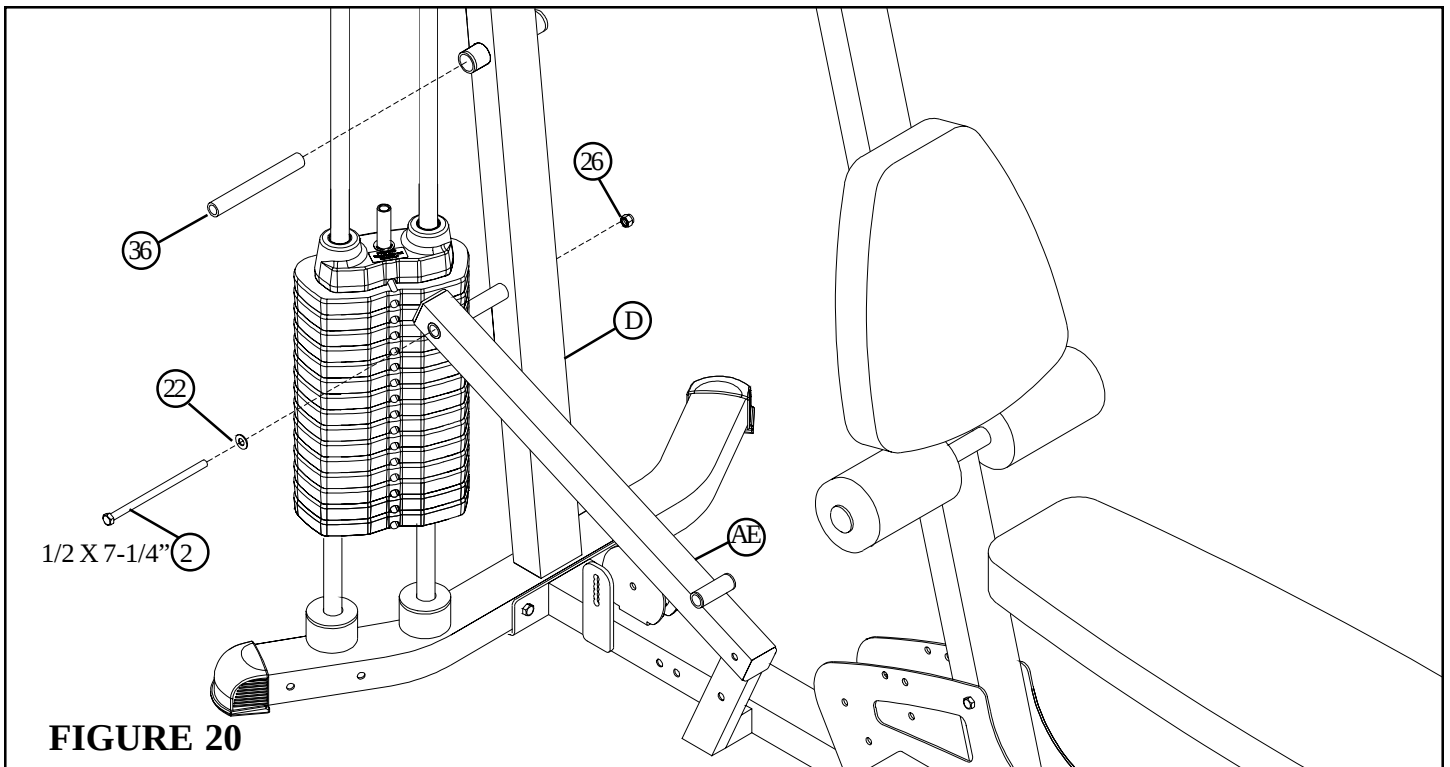

**FIGURE 19**
- Assemble two 4 X 7" ROLLER PADS (AS) to the LEG PEDESTAL (AD) using two PLASTIC WASHERS (48) and two STARLOCK COLLARS (44) as shown in FIGURE 19.
- Assemble two 4 X 7" ROLLER PADS (AS) to the SEAT FRAME (AF) using one 3/4 X 17-1/2" TUBE (AB), two PLASTIC WASHERS (48) and two STARLOCK COLLARS (44) as shown in FIGURE 19.
- Assemble two 4 X 7" ROLLER PADS (AS) to the FRONT FRAME (E) using one 3/4 X 17-13/32" TUBE (AC), two PLASTIC WASHERS (48) and two 3/4" STARLOCK COLLARS (44) as shown in FIGURE 19.